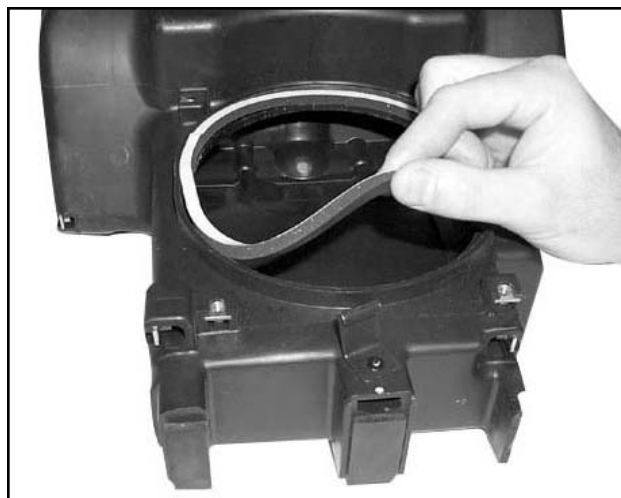

Fig. 1
4. Apply the supplied gasket to the opening of the air box. (Fig. 1)